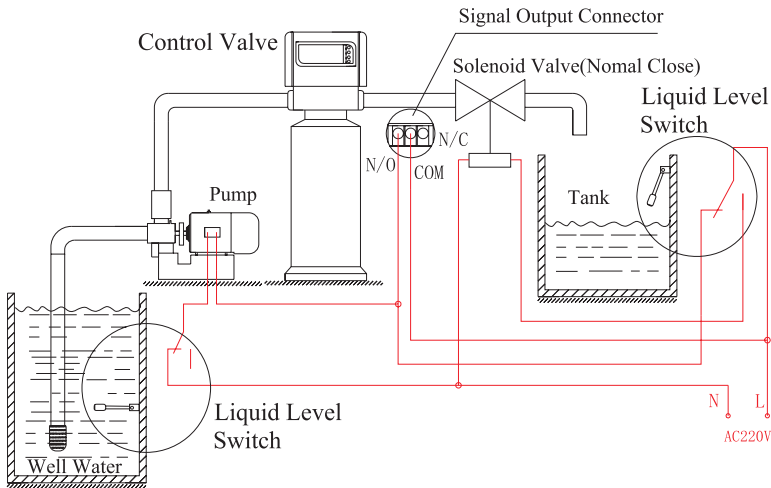

Figure 3-5 Wiring of Liquid Level Switch Controlling Inlet Pump
**Instruction:** For some systems getting water from the well, or supplying water by the tank, we can control the pump on and off by the liquid level switch of the tank and the valve. The wiring refers to Figure 3-5.